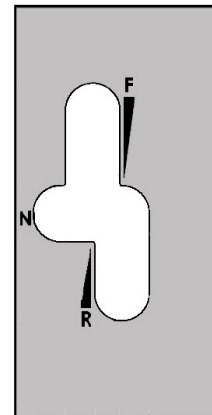

FIG. 4.4B-3
**SPEED CONTROL**— Speed control may be adjusted with the speed control dial (fig. 4.4B-4) This will conveniently help regain consistent field speeds when reentering a field from the end rows.